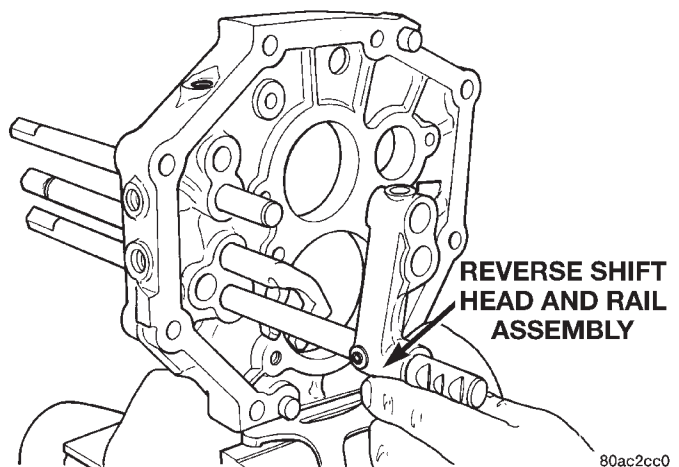

Fig. 69 Remove Reverse Shift Head And Rail Assembly
- (25) Remove reverse shift head and rail assembly (Fig. 69).
- (26) Remove snap-ring holding reverse shift rail into intermediate plate.